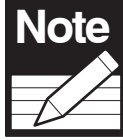

**Fig.1**
**Note** Make sure front and back assembly, the **(RS2B)** roof structure position towards inside the shed as shown in **Fig.1 & Fig.2**